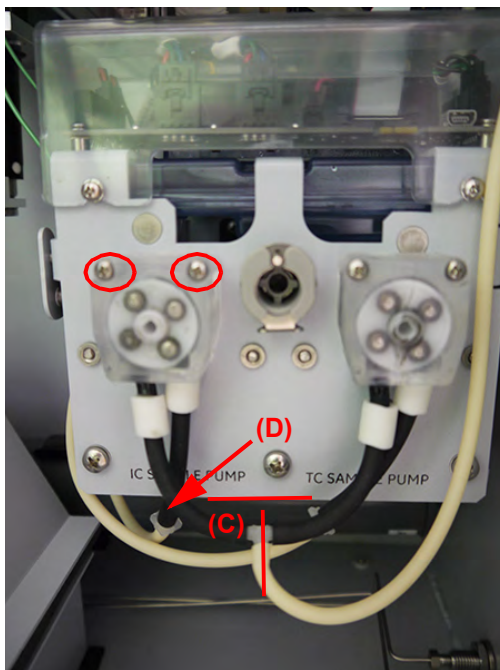

Figure 55: Sample Pump Heads and Tubing — IC Side
12. Now replace the IC pump head. Disconnect the right *inlet* tubing coming out of the pump head from the fitting at the end of the IC waste tubing **(C)**, Figure 55.
13. Disconnect the left *outlet* tubing coming out of the pump heads from the T-connector **(D)**, Figure 55.
18. Connect the left tubing end to the T-fitting **(C)**, Figure 55.
19. Connect the right tubing end to the IC waste tubing **(D)** Figure 55.